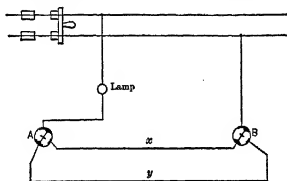

FIG. 161. The lamp may be turned off or on from either switch *A* or switch *B*.
If it is desired to turn a lamp on or off at one station, as at *A*, and also at another station *B*, regardless of how the switch is set at the other station, the wiring may be done as in Fig. 161.
**Prob. 27-7.** Could you arrange the 5 switches of Fig. 161 in a different way and still control a single lamp from 5 points? Does your arrangement meet the requirement of the National